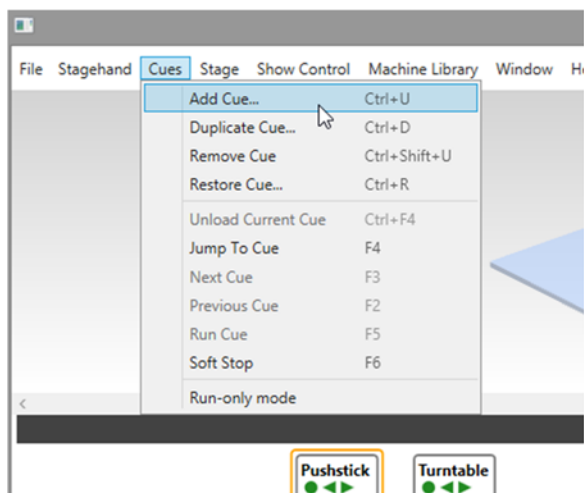

Figure 36
1. Let's add another cue to our simple show. From the **Cues** menu select **Add Cue...** (Figure 36)